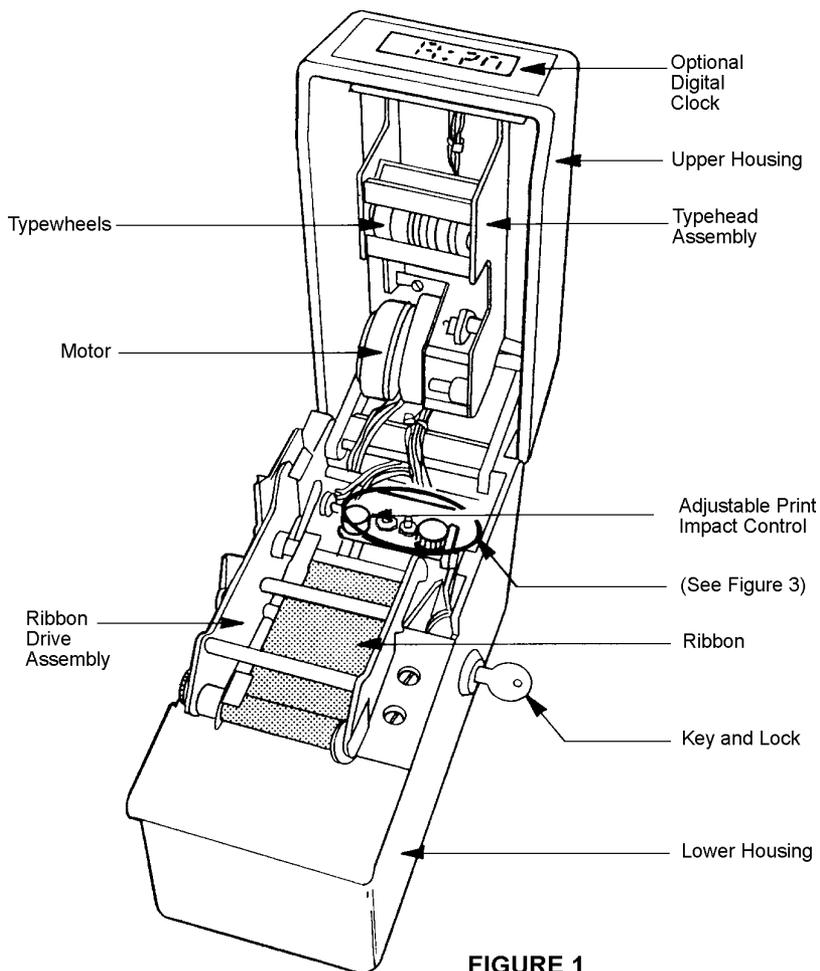

FIGURE 1
To set the typewheels, insert the key, which was supplied with your machine, into the lock and turn it counterclockwise. This unlocks the upper housing which contains the typewheels. (See Figure 1) Set each typewheel to the desired character by pushing the typewheel RATCHET beside each typewheel in a downward direction with a pointed object such as a pencil or a ball point pen. (See Figure 2) Lower the upper housing and lock it in place. Plug unit in and insert a clean piece of paper into the throat until the stamp is activated to verify the registration. The machine is now ready for normal use.
2. Using the key, unlock and raise the upper housing. (See Figure 1) Locate the ribbon drive mechanism.